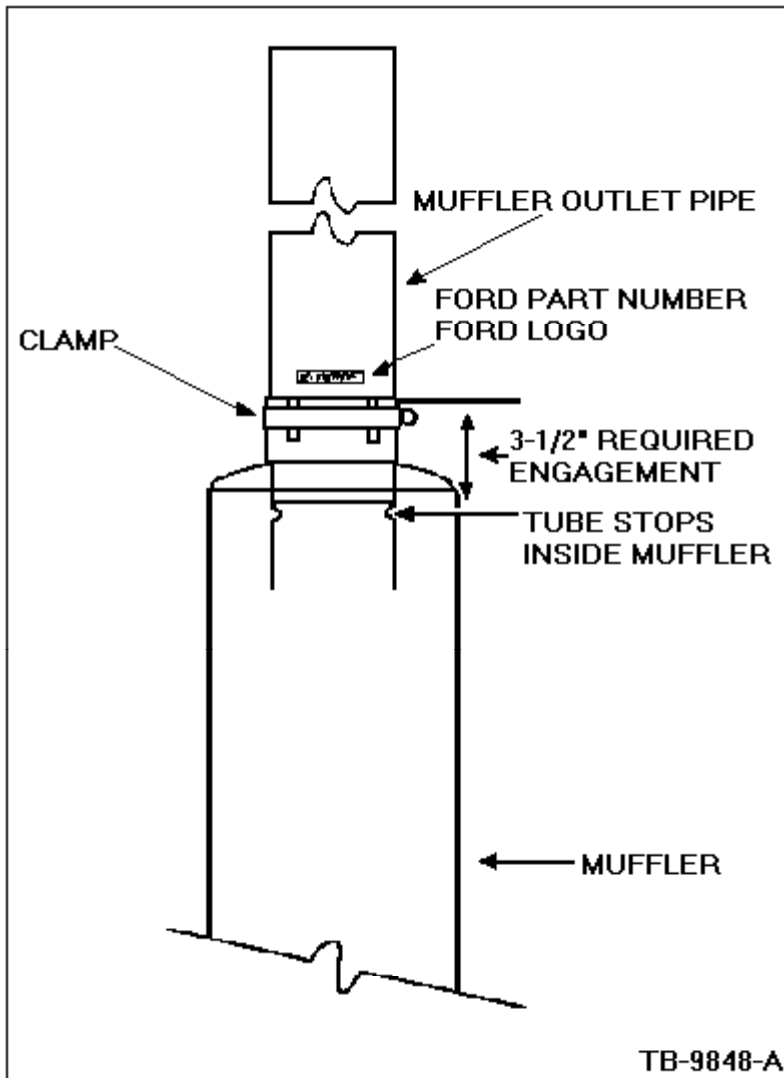

Figure 1 - Article 89-3-14
1. Install the muffler outlet pipe. Make sure the Ford part number and Ford logo are positioned at the muffler outlet, Figure 1.
3. Position the exhaust clamp about in the middle of the muffler outlet slots, Figure 1.